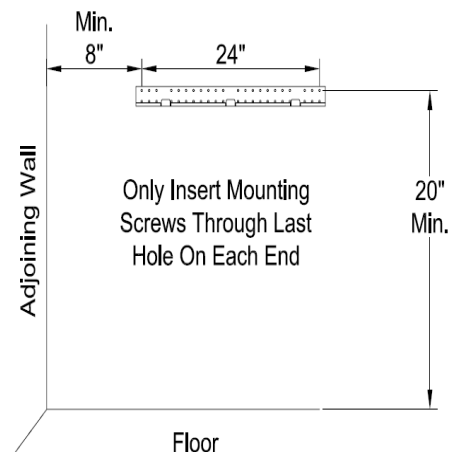

Figure 13 – Mounting Bracket Clearances
⚠ WARNING: Maintain minimum clearances shown in Figure 13. If you can, provide greater clearances from floor and joining wall.
2. Mark screw locations on wall (see Figure 13). If you can, provide greater clearances from floor and joining wall.